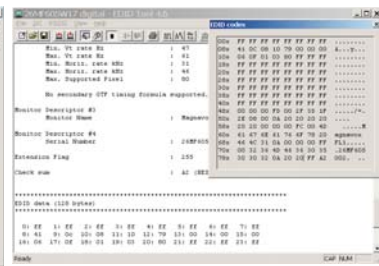

Fig. 30
4. Click icon (Read EDID function) to read DDC EDID data from monitor. The EDID codes will display on screen as shown in Fig. 30.